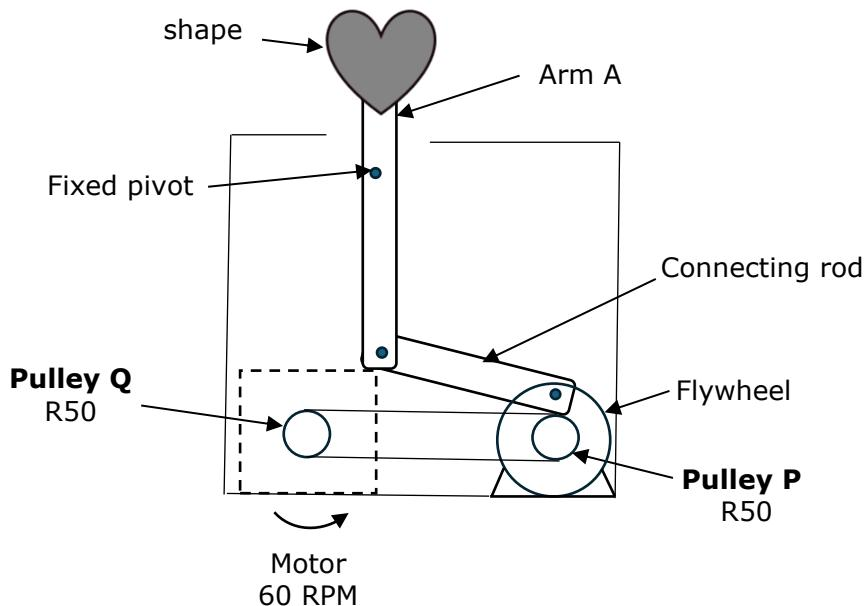
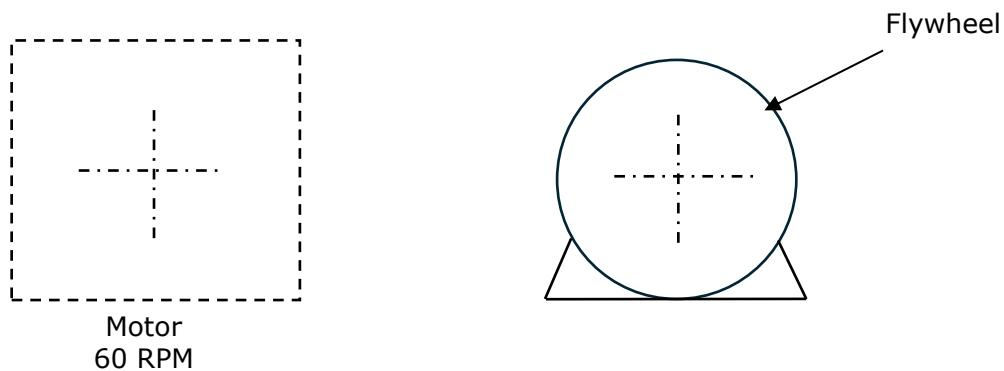

Figure 7
Figure 8
20. The manufacturer of the lamp issued a mechanical upgrade which adds the function of a moving heart shape, themed with the static lamp. Figure 7 shows a mechanical system which makes the shape move.
b. On Figure 7, indicate the direction of movement of the shape by means of arrows. (1)
d. Figure 8 shows an incomplete pulley part of the mechanism shown in Figure 7.
On Figure 8, use sketches and annotations to explain how to make Pulley P rotate at half the motor speed.